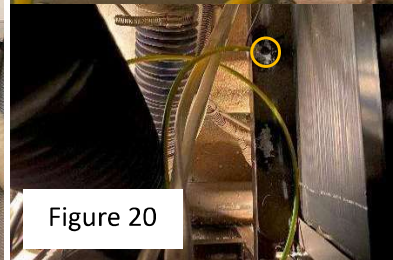

Figure 20
- Attach Cable C to one of the sanded areas of the Cabinet Frame using self-tapper and lock washer (Figure 20)